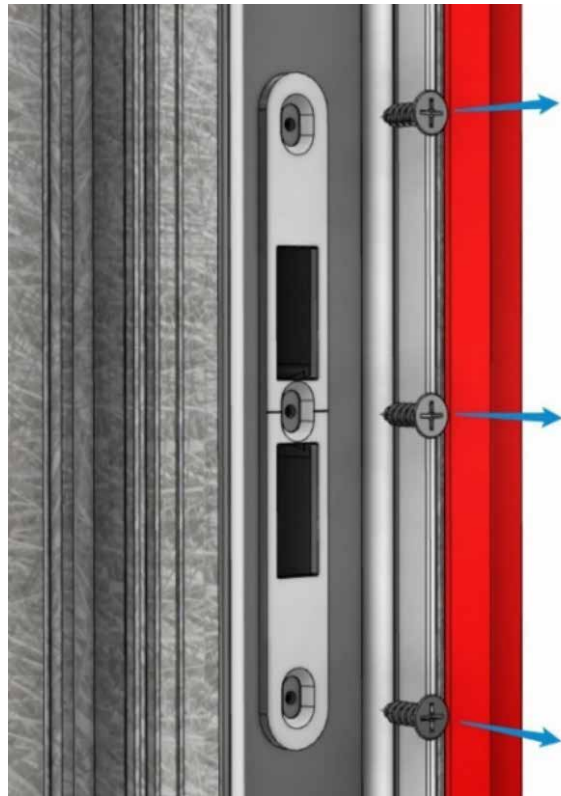

Fig 43
- Remove the factory applied screws from the locking hardware strike plates on the jambs (Fig 43).